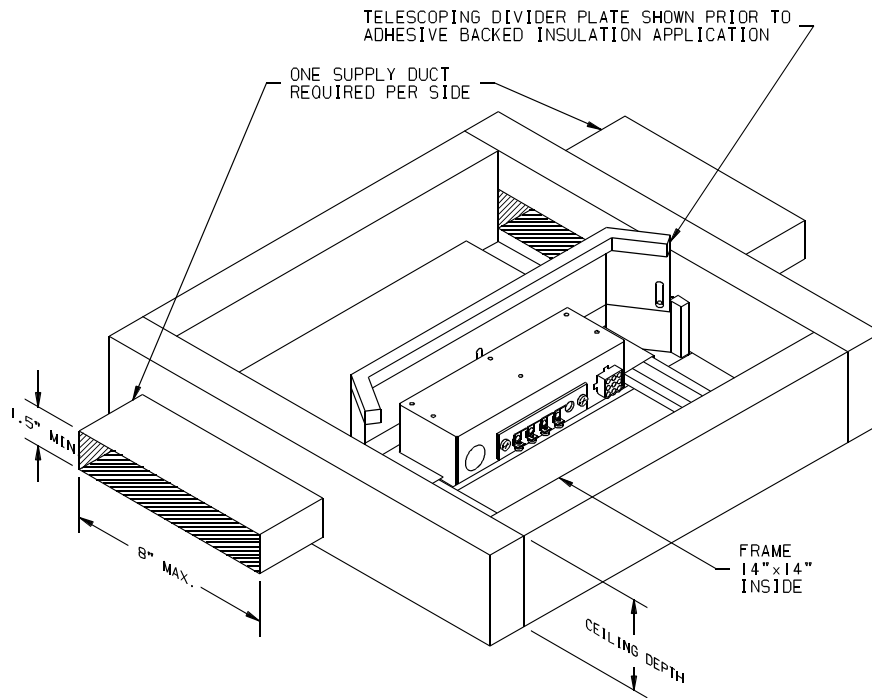

FIGURE 2
5. Measure how far the divider plate extends above the ceiling plenum electrical box. Using this measurement, trim the adhesive backed foam insulation pad (provided with this package) to this measurement. Peel off the adhesive backing and apply the insulation pad to the raised divider plate. The insulation pad is longer than the roof opening (See Figure 2).